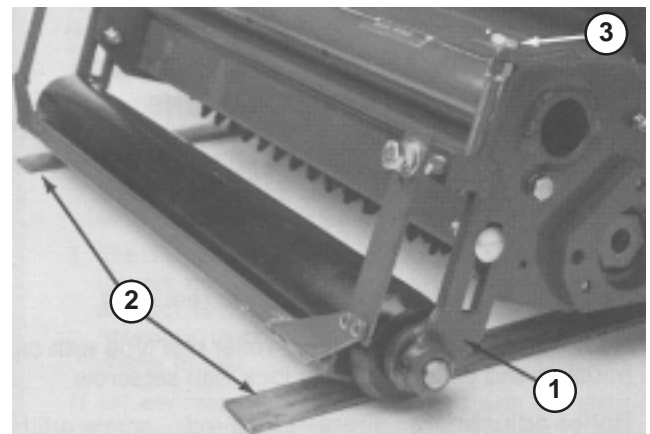

Figure 2
Adjusting Dethatcher Reel Blades For Negative Setting (Below ground)(Fig. 2)
2. Loosen the (2) locknuts on carriage bolts securing rear roller brackets to dethatcher frame (Fig. 2).
3. Place (2) gauge bars, which have the desired depth of blade penetration below ground, under the front and rear rollers of the dethatcher reel (Fig. 2).